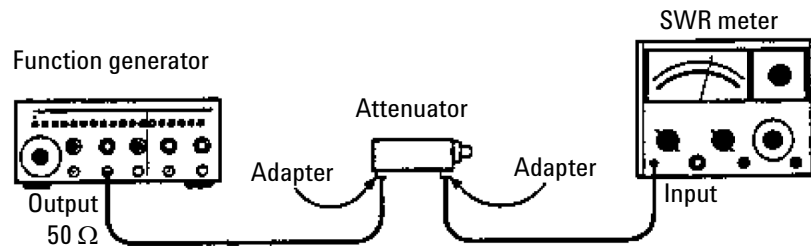

Figure 2 Operator's Check Setup
- 1 Connect equipment as shown in Figure 2 on page 23 with the attenuator set to 0 dB attenuation.